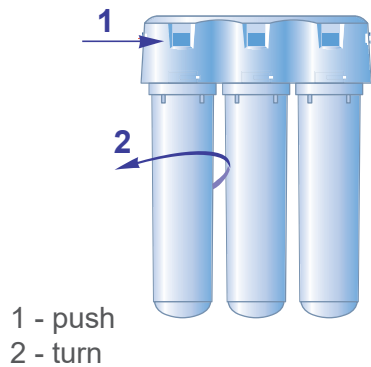

Fig. 5
- pressing it hard and holding the safety button **(14)**, turn the used filter cartridge counter clockwise (fig. 5);